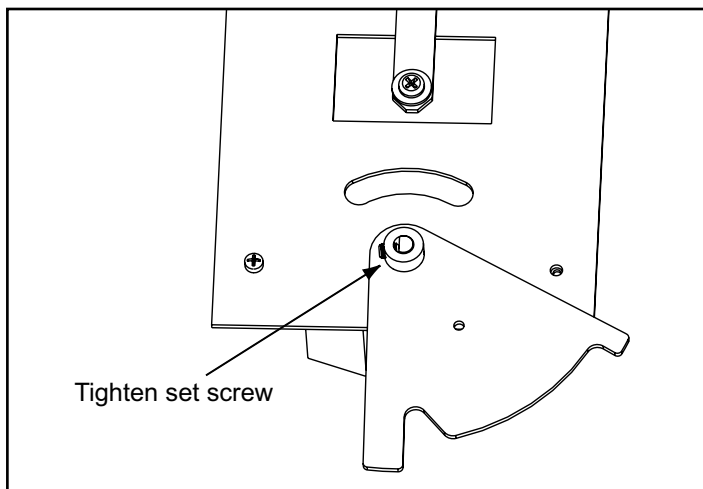

Figure 37.1
3. Place linkage control arm over timer shaft and tighten set screw. Figure 37.1.